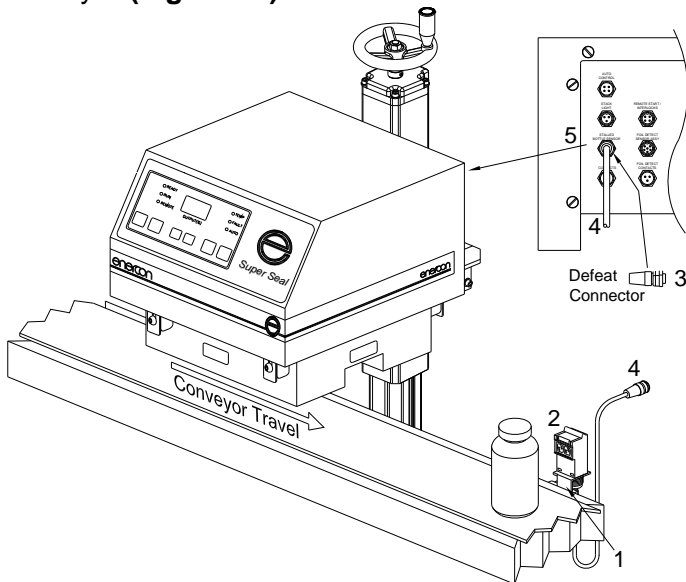

Figure 30
Mounting brackets and hardware (1) are furnished for mounting the Stalled Bottle Sensor (2) to your conveyor (Figure 30).